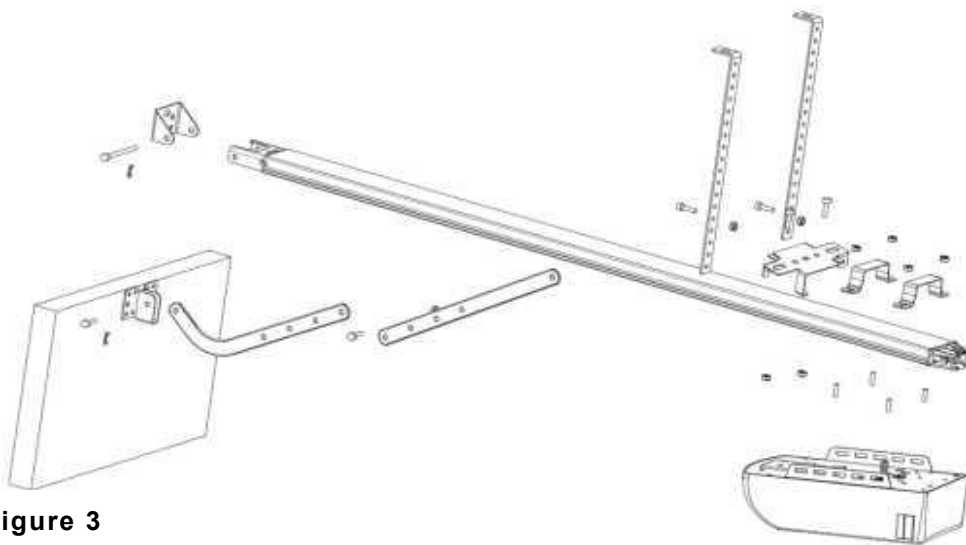
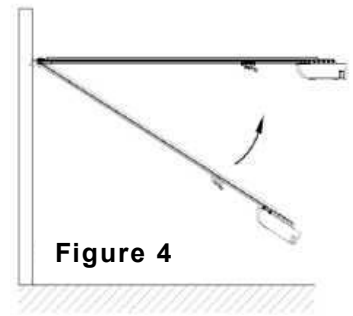
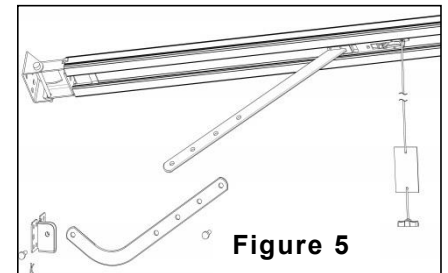

Figure 3
Figure 4
Figure 5
STEP1 (Fig.3)
STEP2 (Fig.3)
STEP3 (Fig.3, Fig.4)
STEP4 (Fig.3, Fig.5)